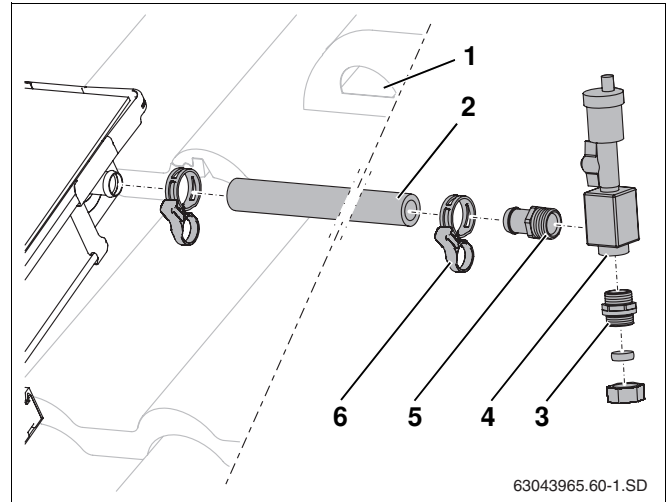

Fig. 56 Fitting the solar hose to the flow connection
- Push long solar hose (1000 mm, Fig. 56, **Item 2**) onto the flow connection on the collector array and fix in place using hose clip.
- Feed solar hose together with the sensor cable through the ventilation tile (Fig. 56, **Item 1**) and through the roof insulation.
- Firmly screw R $\frac{3}{4}$ hose nozzle with O-ring (Fig. 56, **Item 5**) and double threaded fitting with O-ring (Fig. 56, **Item 3**) into the air pot (Fig. 56, **Item 4**).
- Push hose nozzle onto the solar hose as far as it will go and fix in place using hose clip (Fig. 56, **Item 6**).
- Connect header pipe to the compression fitting (Fig. 56, **Item 3**).